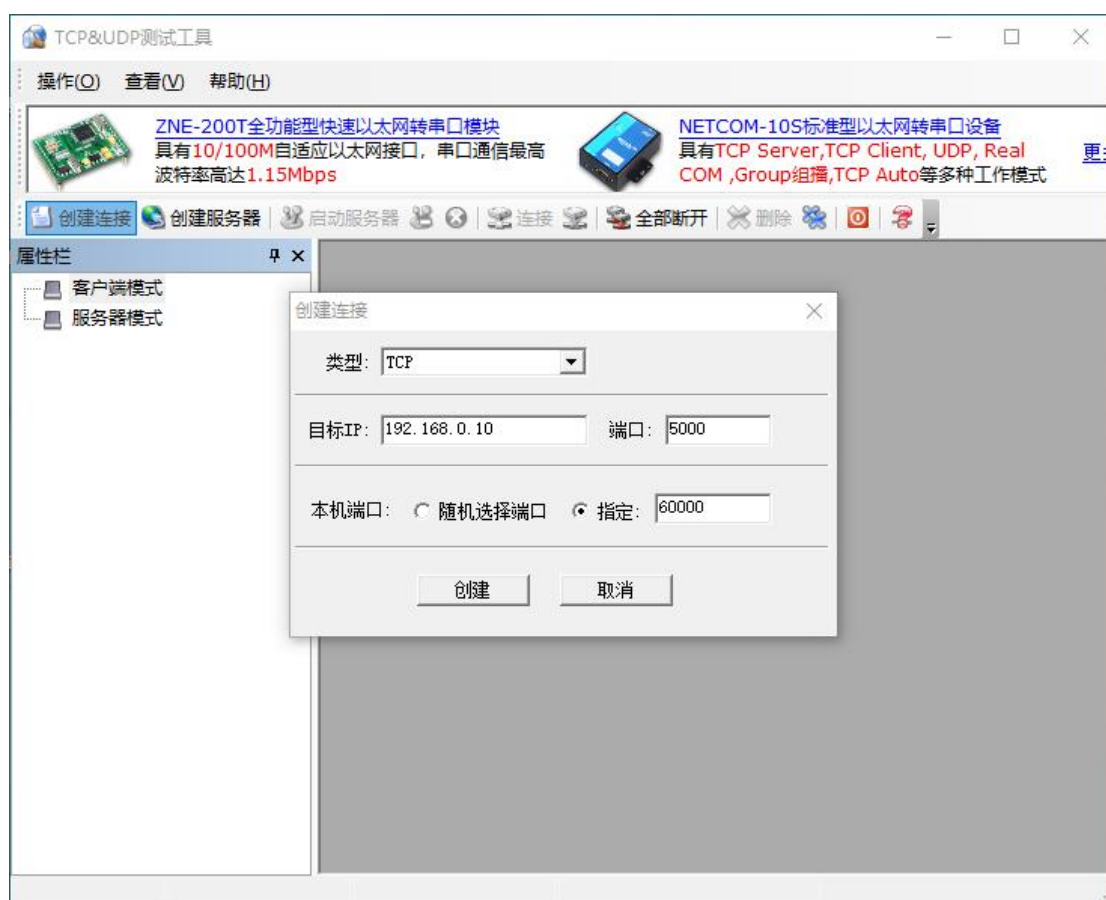

Figure 6-18 TCP Client Creation
3) Set the computer IP to 192.168.0.1 (consistent with the remote IP set in the module), and open "TCP & UDP Test". "Test Tool", set the connection port to 60000, and set other parameters as shown in Figure 6-18.